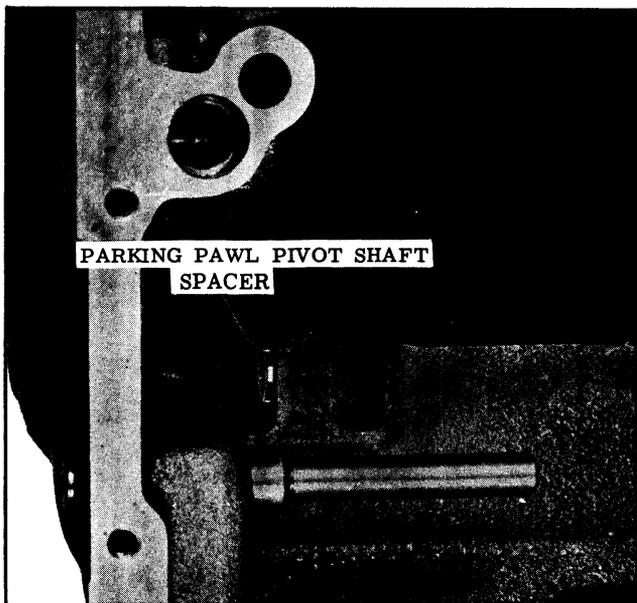

Fig. 3-53 Installing Pivot Shaft Spacer
2. Install parking pawl pivot shaft spacer in recess in the case. (See Fig. 3-53)